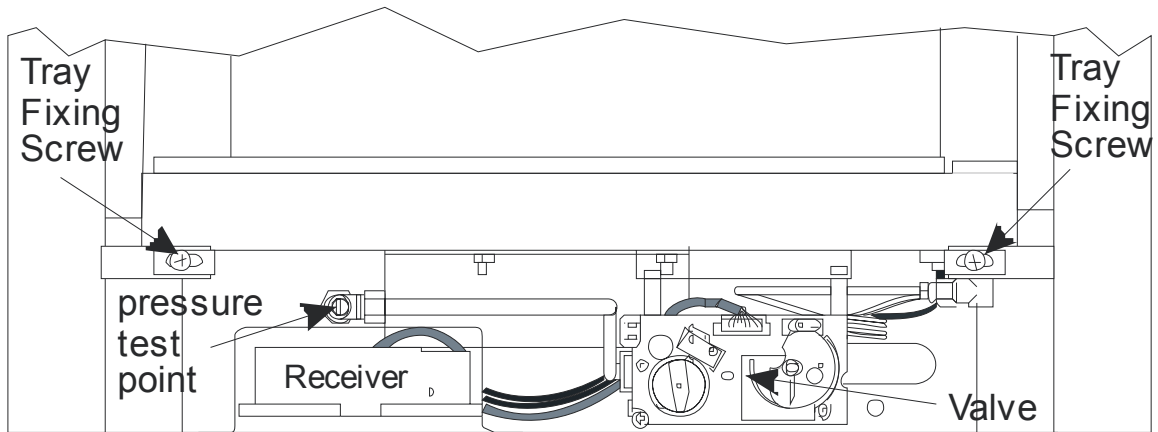

Figure 41- Model with Mertik GV60 Valve (Total Control)
1. Remove the two burner fixing screws located under the front corners of the tray (see **Figure 40** to **Figure 41** on page 23).